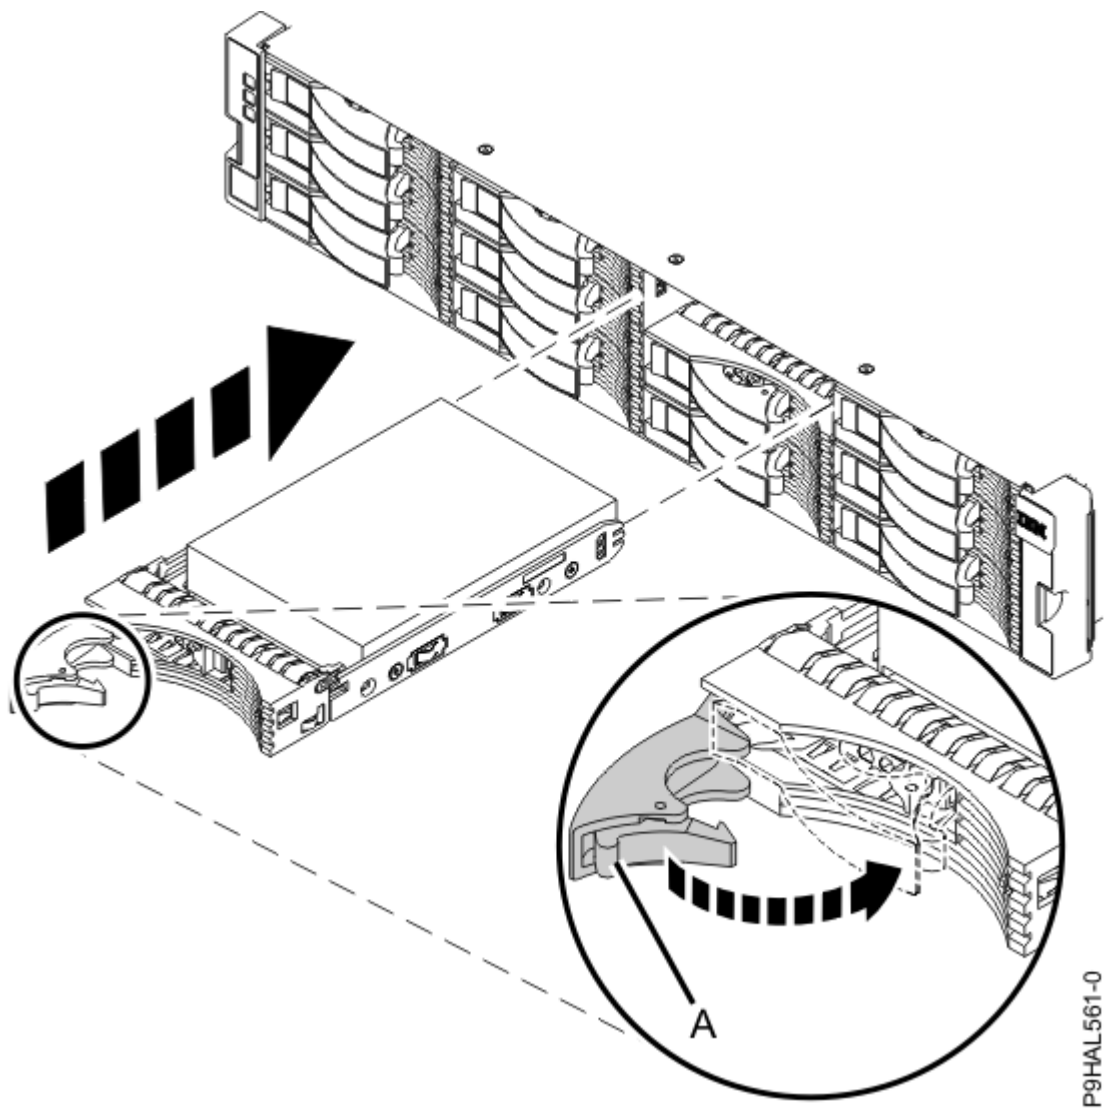
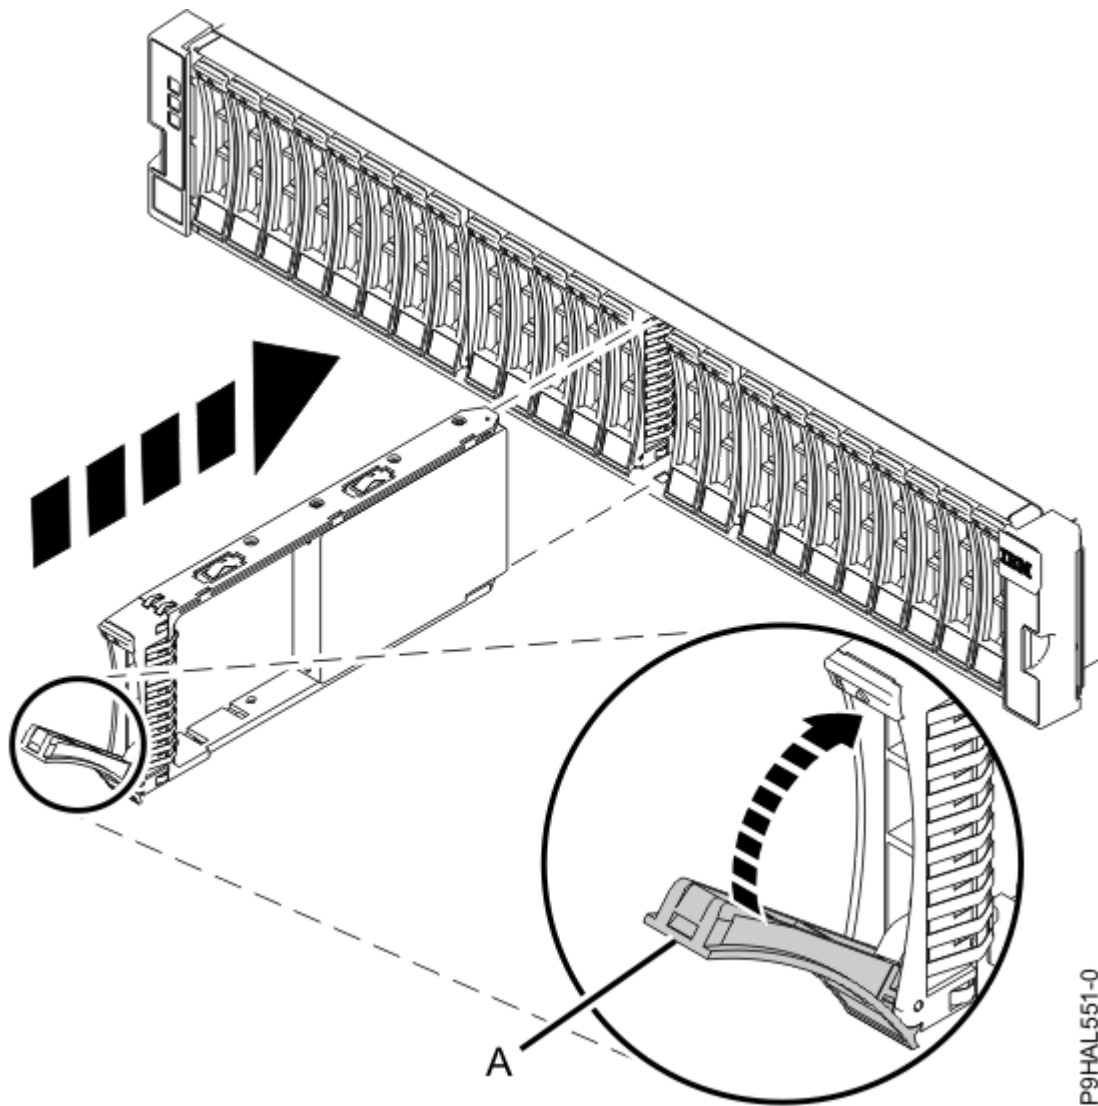

Figure 10. Installing a drive in the ESLL storage enclosure
Figure 11. Installing a drive in the ESLS storage enclosure
3. With the handle in the unlocked position, support the bottom of the drive as you align it with the guide rails in the enclosure. See Figure 10 on page 12 or Figure 11 on page 13.